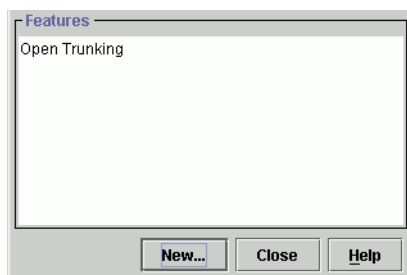

Figure 2-37 Configure Feature Key Dialog Box
2. At the *Hardware View* for the selected director, click *Configure* at top of the view and select *Features* from the pop-up menu. The *Configure Feature Key* dialog box displays (Figure 2-37).